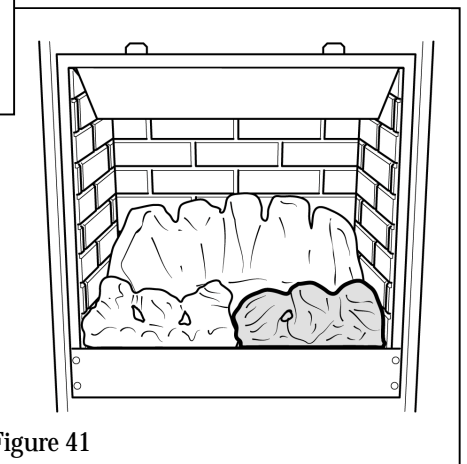

Figure 41
3. Place the right front coal behind the metal lip at the front of the firebox. Its left side should rest over the projection on the left front coal. See figure 41.